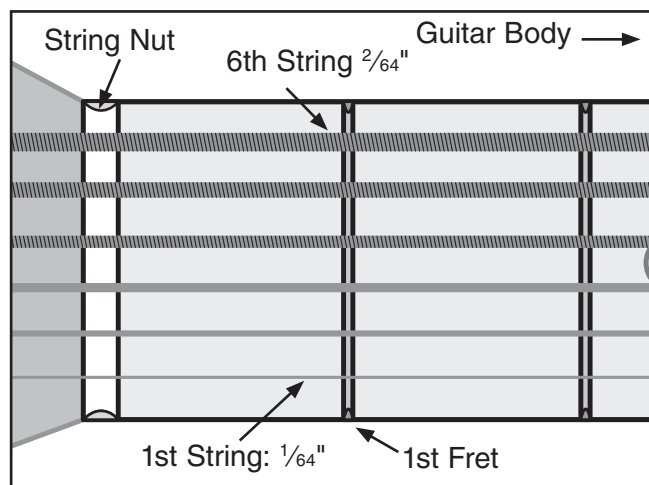

Figure 34. Correct 1st fret string heights.
1. Measure the string heights at the 1st fret (see **Figure 34**).